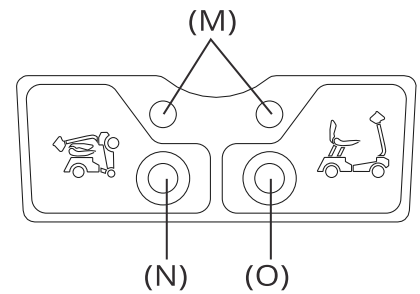
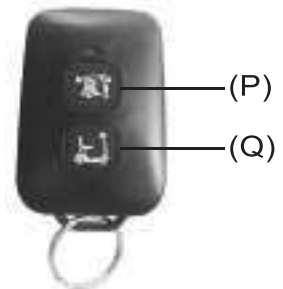

Figure 23
Figure 24
- When the scooter is power off and on standby for folding / unfolding, the folding / unfolding light indicator (M) on scooter will be orange. (Figure 23)
- Buttons on scooter (Figure 23)
- Press folding button (N) once to auto-fold; please make sure the scooter is fully expanded before folding.
- Press unfolding button (O) once to auto-unfold, please make sure the scooter is fully folded before unfolding.
- Press (N) / (O) again to fold / unfold if folding / unfolding process is interrupted.
- Buttons on remote (Figure 24)
- Press folding button (P) once to auto-fold, please make sure the scooter is fully expanded before folding.
- Press unfolding button (Q) to auto-unfold, please make sure the scooter is fully folded before unfolding.
- Press (P) / (Q) again to fold / unfold if folding / unfolding process is interrupted.